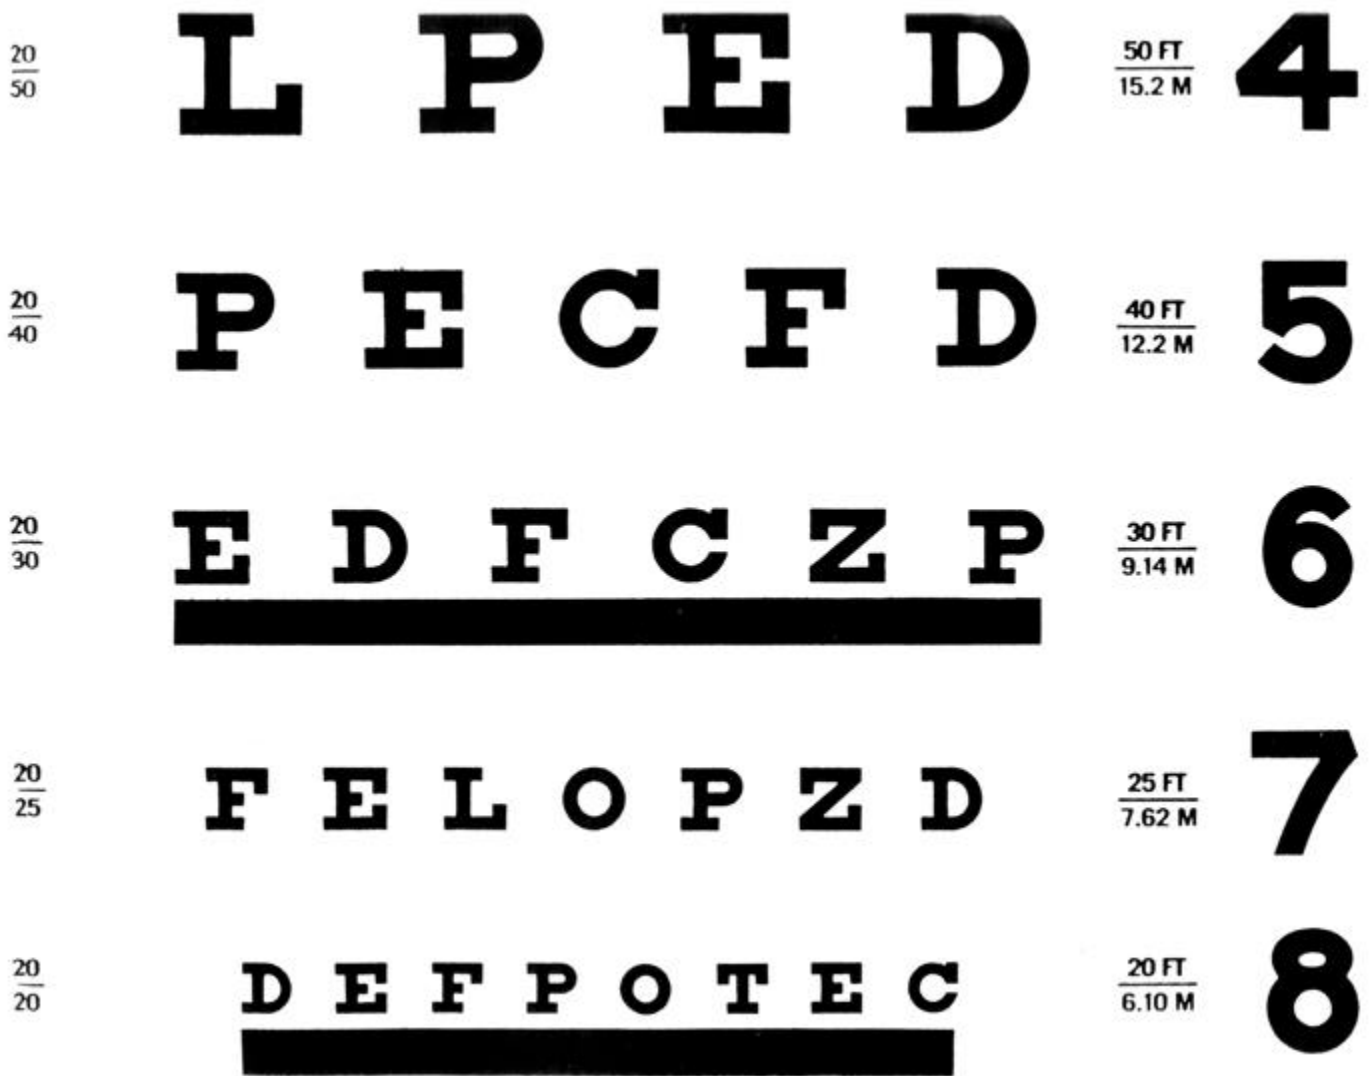

Figure B-2. Near vision
**B-2. Near Vision.** Focusing the goggles is best accomplished with the aid of an eye chart (Figure B-2). Hang it on a tree (or wall if in a classroom) and slightly lower than eye height. The desired distance is 20 feet from the chart to the viewing line. If in a classroom, attach the light to the ceiling about 10 feet away from the eye chart and position the light so that it will not create a glare for the viewer.